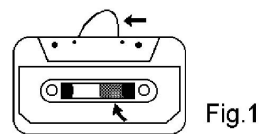
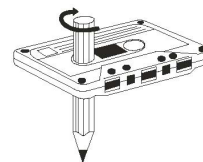

Fig.1
Fig. 2
- Check that there are no loose layers of tape visible through the cassette center window (see Fig. 1). Take up any loose layers, using a pencil or hexagonal barrelled ballpoint pen, before inserting the cassette into the machine (see Fig.2)
- If the cassette feels tight while performing operation shown (see Fig.2), the tape may be jamming due to ridges formed in the winding of the tape (visible through the center window). These may be removed, in most cases, by fast winding of the cassette from one end to the other and back again.